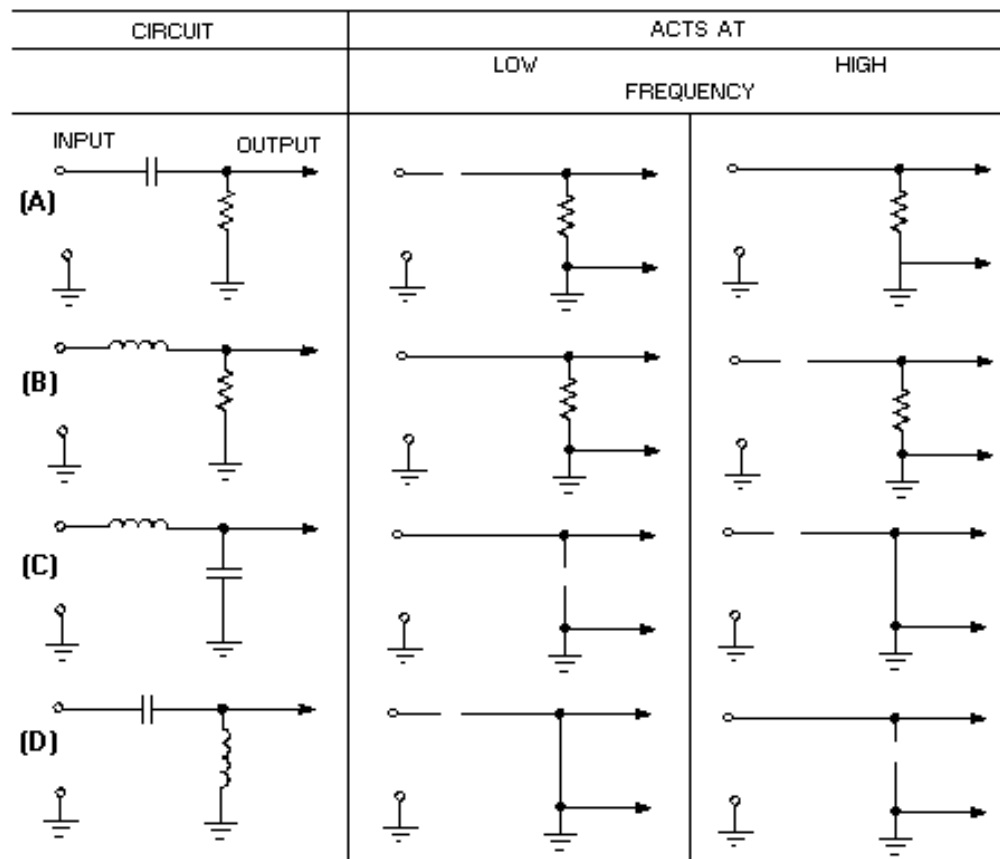

Figure 1-14.—Reaction to circuit by change in frequency.
If we apply these same principles to simple circuits, such as the ones in figure 1-14, they affect input signals as shown. For example, in view (A) of the figure, a low frequency is blocked by the capacitor which acts as an open and at a high frequency the capacitor acts as a short. By studying the figure, it is easy to see how the various components will react in different configurations with a change in frequency.